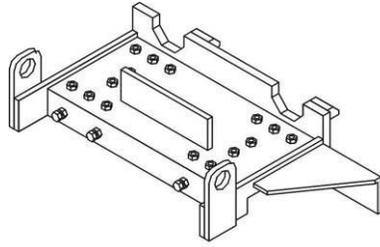
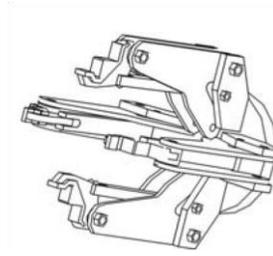

Fig 3-1
Fig 3-2
- 2) Adjusting the bolts in paralleling movement small board (Fig 3-1). Tighten the bolts in the upper place of the paralleling movement small board. After using the machine a period of time, push the paralleling movement small board according to the direction (Fig 3-2), loosening the fixing bolt on the upper place of the paralleling small board. Adjust the slide block and bolts. Then tighten all the bolts. (The bolts should be neither too tight nor loose.)